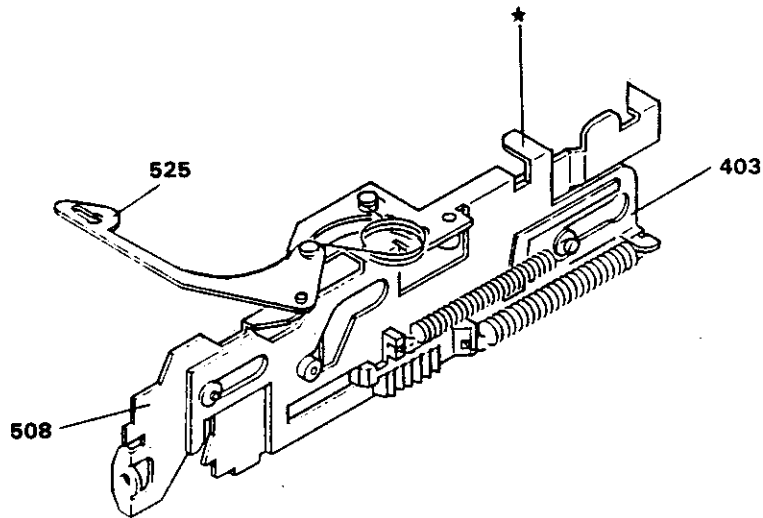

FIGURE 4-8. PLAY MODE
Cassette Holder is raised by moving Rack with CAM of Eject Lever (403) (see Figures 4-8 & 4-9).
12. Urgent Eject Mechanism - If the cassette is not ejected with Eject button pushed, the cassette can be manually removed by pushing the part marked \* on Eject Lever with a fine, long bar through the cassette slot as illustrated (see Figure 4-8).
13. Music Sensor - As mentioned previously, Head Base (432) is moved backward by moving R/F Lever (503) to touch the head with tape while feeding the tape rapidly in forward or reverse direction. The signals thus picked up are used to detect a blank between tunes for performing the One Music Scan operations.